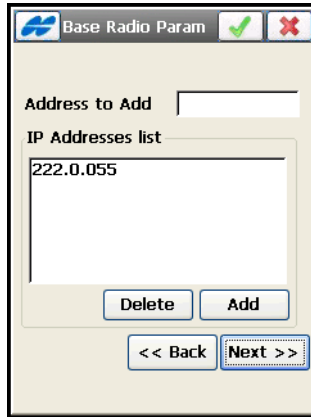

Figure 3-21. Base Multicast Parameters
**For Airlink Multicast CDMA (Multicast UDP) modem** the screen contains the following parameters (Figure 3-21):